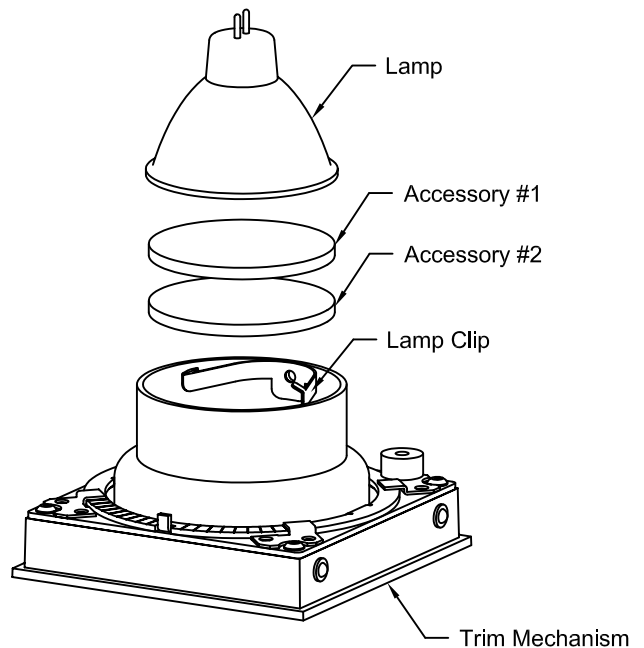

Figure 4
*Lamp Bracket accommodates up to two (2) accessories.
2. Slide out Lamp and/or Accessories from under Lamp Clip to remove. See Fig. 4.